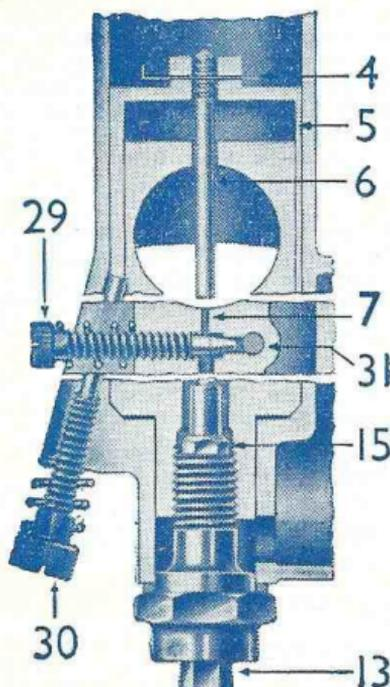

Fig. 4.
(a) This fig. 4 is three diagrammatic sections of the carburettor to show the throttle adjusting screw (30), and the pilot air adjusting screw (29).
The taper needle position in relation to the throttle opening can be set according to the mixture required by fixing it to the throttle valve with the jet needle clip in a certain groove (see figure 4 above), thus either raising or lowering it. Raising the needle richens the mixture and lowering it weakens the mixture at throttle openings from quarter to three-quarters open (see figure 5, page 7). The needles are marked with the letters B, C, or D. B type are fitted in the 375 Carburettor, C type in the 376 Carburettor, and D type in the 389 Carburettor. The needles in some cases are marked with a number in addition to a letter.